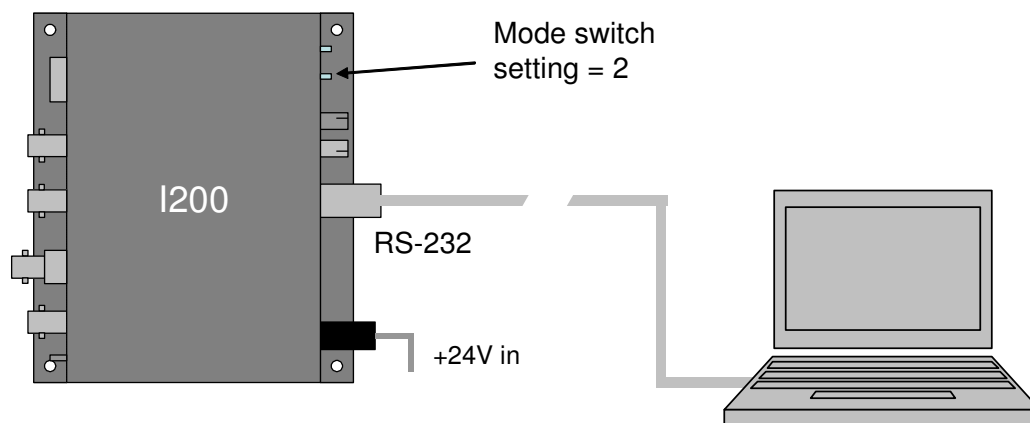

Figure 15. Direct RS-232 connection to the I200.
- 3) It is simplest to connect the I200 directly to the PC via its RS-232 or USB ports (see figures 15 and 16). Using the USB interface, you must install the USB driver (see section 13). If you are using RS-232, set the mode switch to position 2 (115 kbps binary). If you are using USB, set it to position 1 (3 Mbps binary). The address switch can be set to anything between 1 and 15.